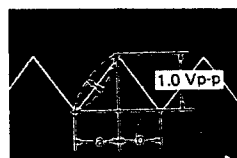

Fig. 4-12
- (1) Connect an oscilloscope to TP-12 on WFP BOARD.
- (2) Adjust R104 (V-TRI-PHASE) so that a equals b as shown in Fig. 4-12.
- (3) Adjust R111 (V-TRI-LEVEL) so that the amplitude is 1.0 Vp-p.